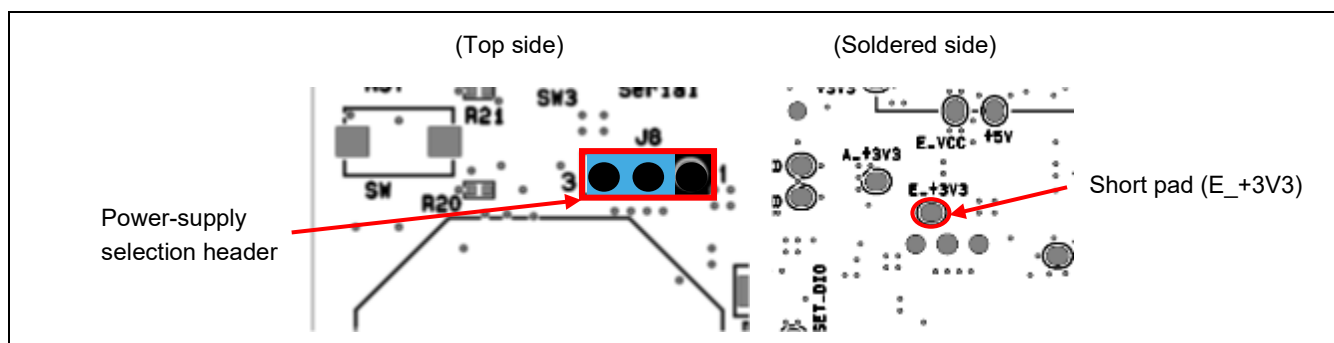

Figure 5-18 Settings to Select the Use of VBUS (+5 V) (J8)
- 2-3 of J8 being short-circuit and the short pad (E_+3V3) being removed select VBUS (+5 V) (Figure 5-18).